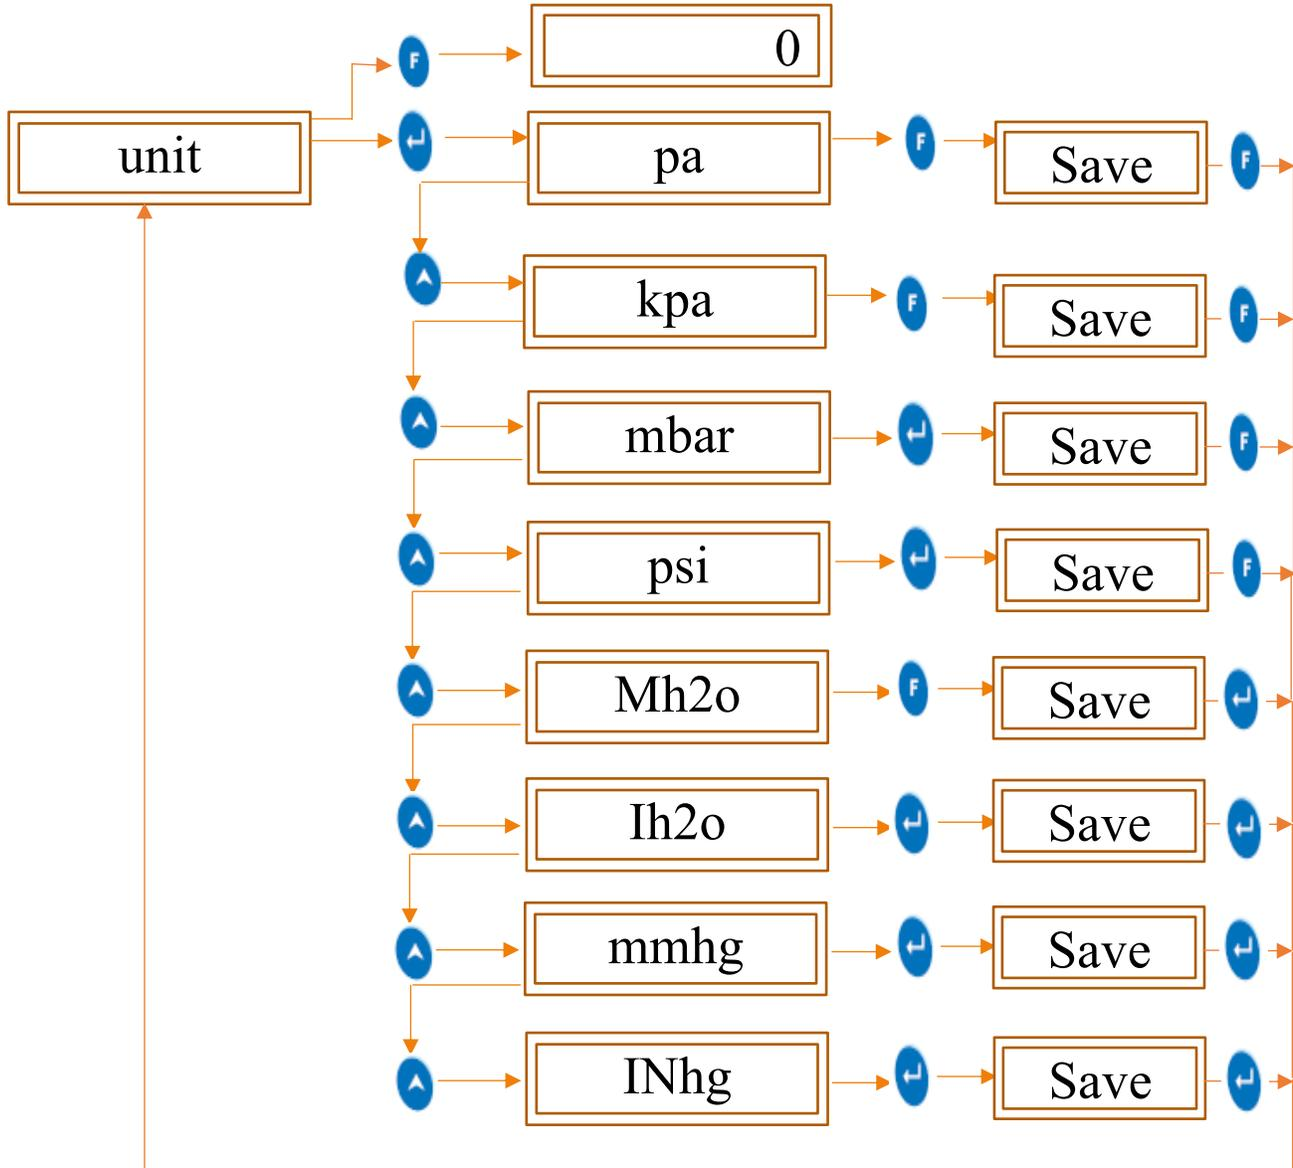

Figure 16 Unit Sequence
- The procedure for selecting the unit is shown in figure 16.